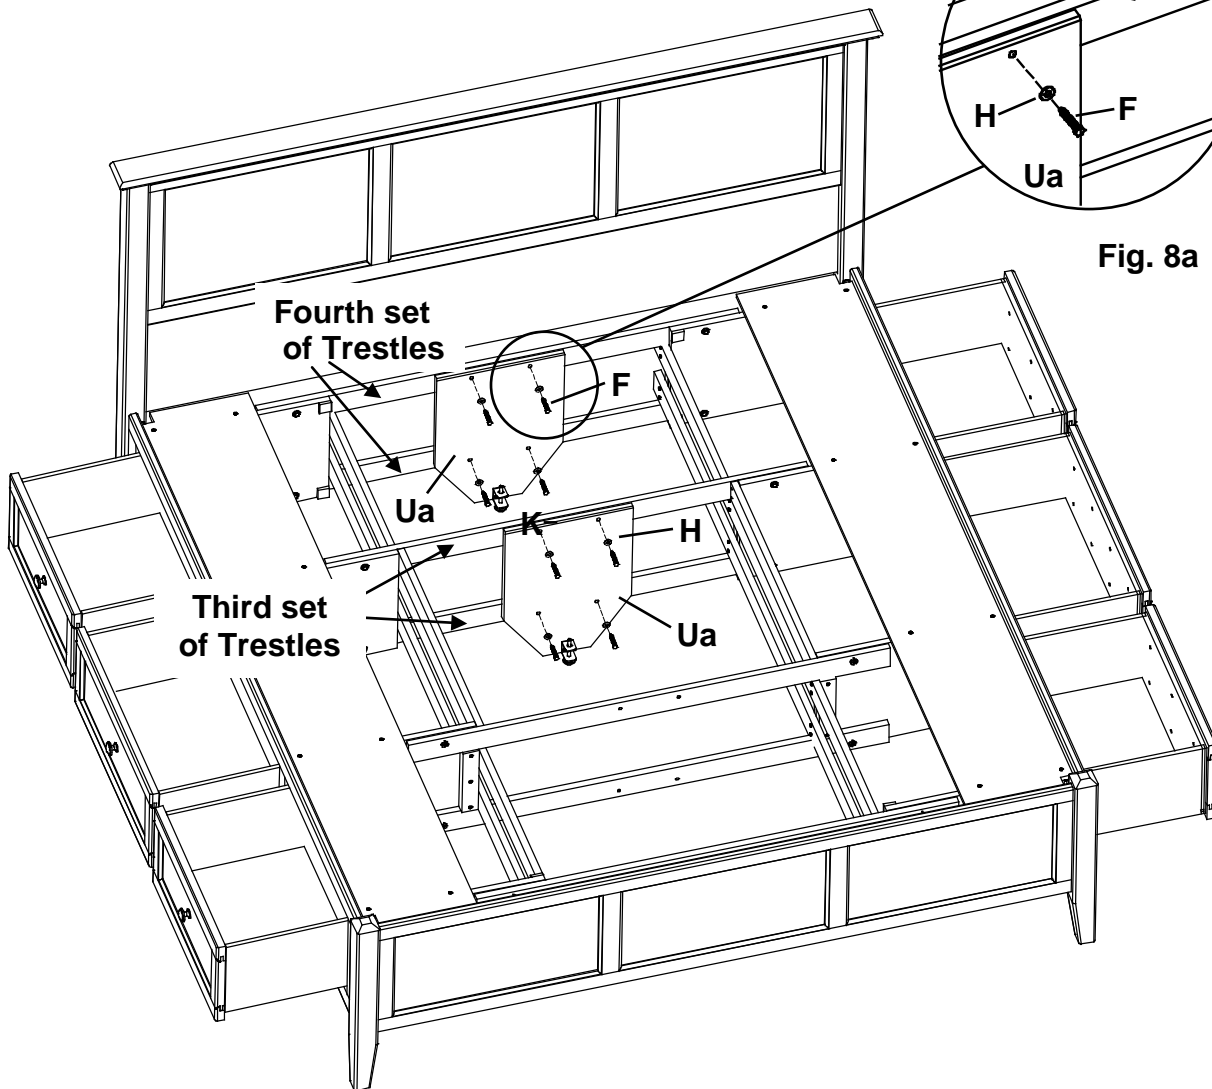

Fig. 8
Facing the Headboard, place two Assembled Feet (Ua) on the inside faces of the third and fourth upper and lower Trestles. Attach with Washers (H) and 1/4" x 1-3/4" Hex Bolts (F). See Figures 8 and 8a.